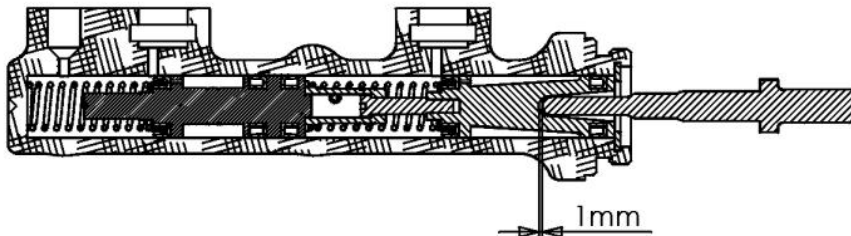

Fig. 3
- Check the Pushrod that goes into the master cylinder from the pedal. It should have a 1/32 inch (1mm) of play before you can feel the rod make contact with the plunger (see Fig.3).
- Das Spiel sollte 1 mm betragen. Siehe Fig.3